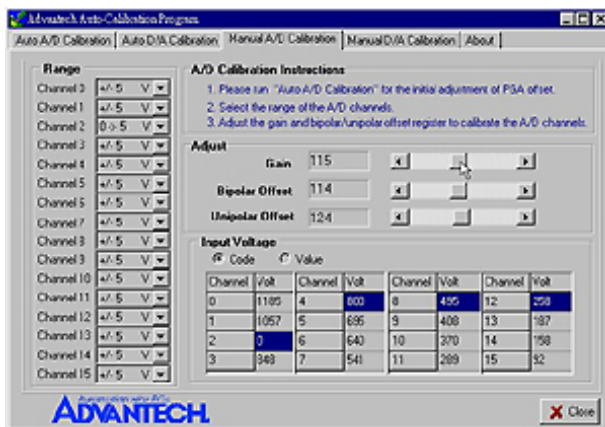

Figure 6-14: Adjusting registers
Step 2: According to the difference between reference voltage and receiving data in PCI-1712/1732, adjust the gain, bipolar offset and unipolar offset registers (Figure 6-14)